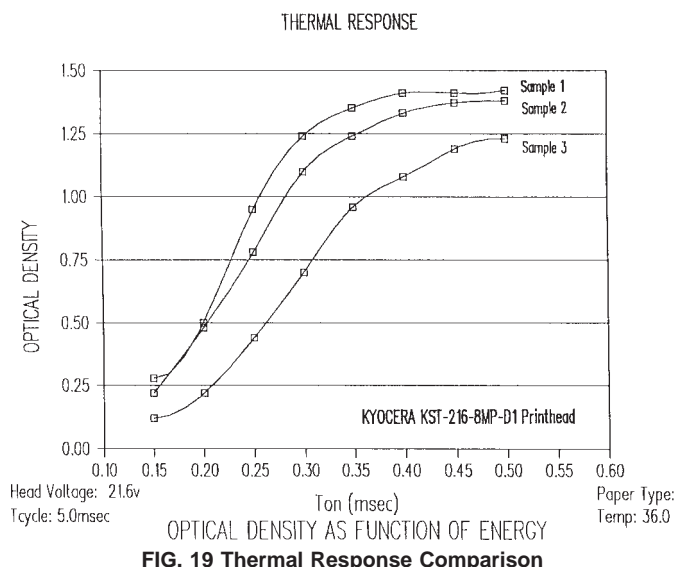

FIG. 19 Thermal Response Comparison
14.2 When comparing more than one thermal product, the more the thermally responsive product will be the “S” plot furthest to the left. Fig. 19 shows three sample test plots. Sample 1 is more thermally responsive than Samples 2 and 3. Sample 3 is the least thermally responsive.
14.3 If Sample 1 (Fig. 19) yields an image density of 1.0 in a certain facsimile printer, Samples 2 and 3 will yield lower and lowest respective densities.